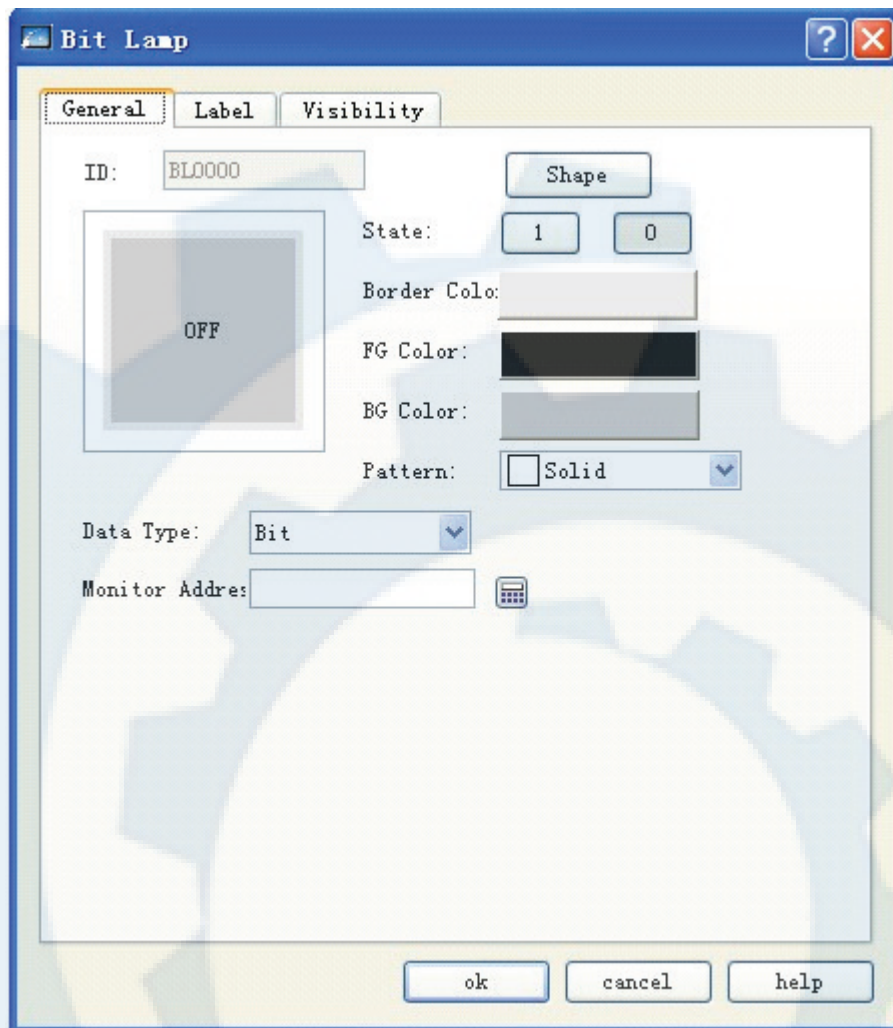

Figure 4-84: Bit Lamp dialog
1. Choose the Bit Lamp button icon  in the tool bar, and then a dialog as shown in Figure 4-84 will appear.